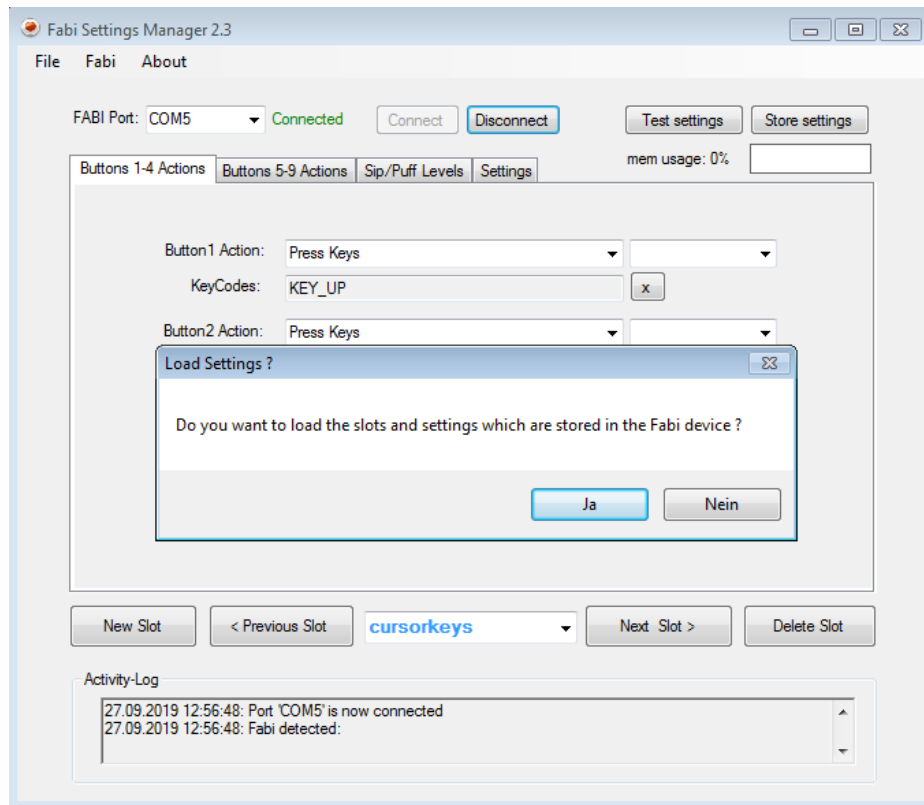

Figure 2: The program has been successfully connected to the microcontroller port
Then a COM port with a certain number (e.g. COM4) should be selectable in the FabiGUI software in the selection box "FABI Port" (see Figure 2). After unplugging the FABI module, the COM port should disappear again. If no new COM port is created by plugging in the FABI module, please install the Arduino software from the following source and then try again:
4. If the connection is successful, existing settings can be loaded from the device - if you want to do this, click on "Yes" in the selection dialog (see Figure 2).